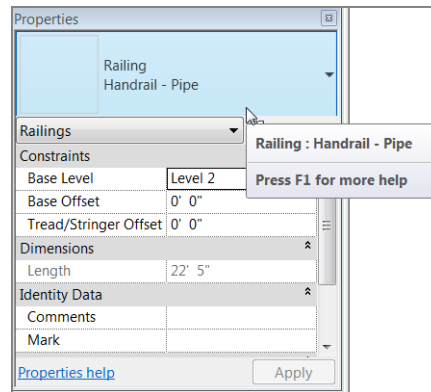

FIGURE 10.51: Setting the landing handrail type
2. In the Type Selector, change the type to Handrail - Pipe, as shown in Figure 10.51.